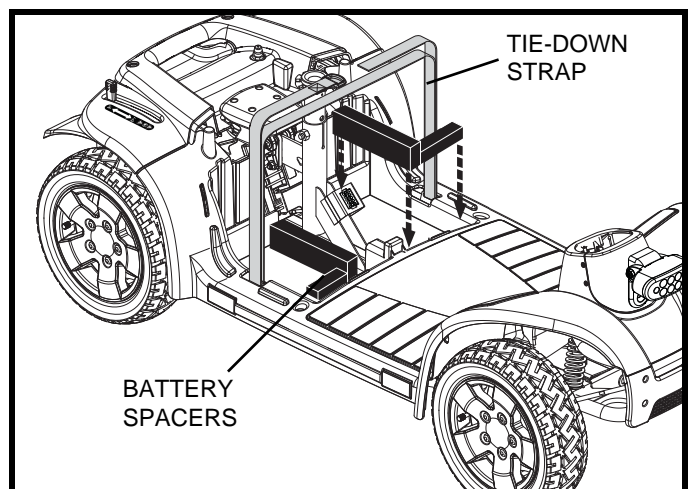

Figure 25. Battery Spacers
NOTE: If spacers are installed to secure the batteries, remove the spacers for safe keeping until the scooter is assembled again. See figure 25.
6. Reinstall the battery spacers if applicable. **See figure 25.**